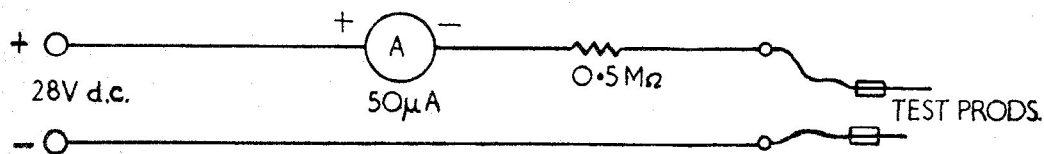

Fig. 6. Insulation test circuit
20. Measure the leakage current using a 0-50  $\mu$ A industrial grade ammeter or multi-meter type 12889 with a 0.5 megohm ( $\frac{1}{4}$ W) resistor in series with the positive probe as shown in fig. 6. Connect the test circuit. (fig. 6) to a d.c. supply variable between zero and 28V. Increase the voltage gradually from zero to 28V. The leakage current should not exceed 1.4  $\mu$ A when this voltage is applied in turn between each designation shown and the remainder